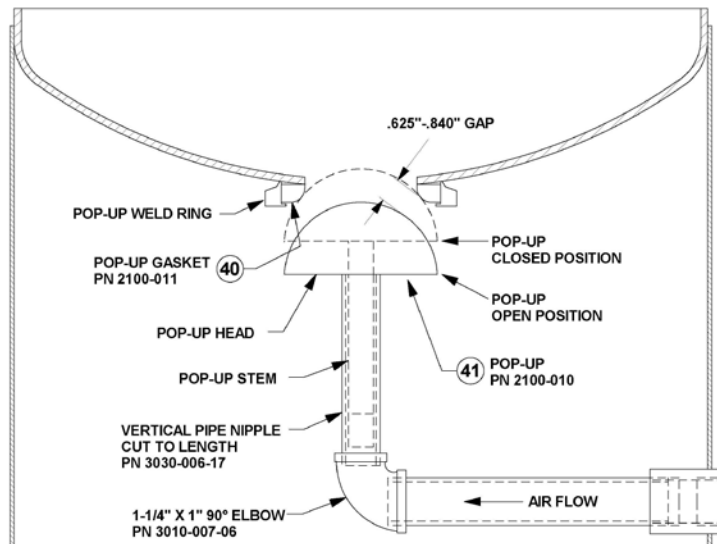

Figure 8.1 – Standard popup assembly
Check the pressure vessel internal piping for corrosion, cracks, and holes. See Figure 8.1.
- e) Check the popup gap (distance between the popup surface and the gasket). It should be between 0.625” and 0.840”. See Figure 8.1. An excessive gap is created by a vertical nipple that is too short. An excessive gap will expose the top of the vertical nipple to abrasive when the popup closes which could result in premature wear to the popup.